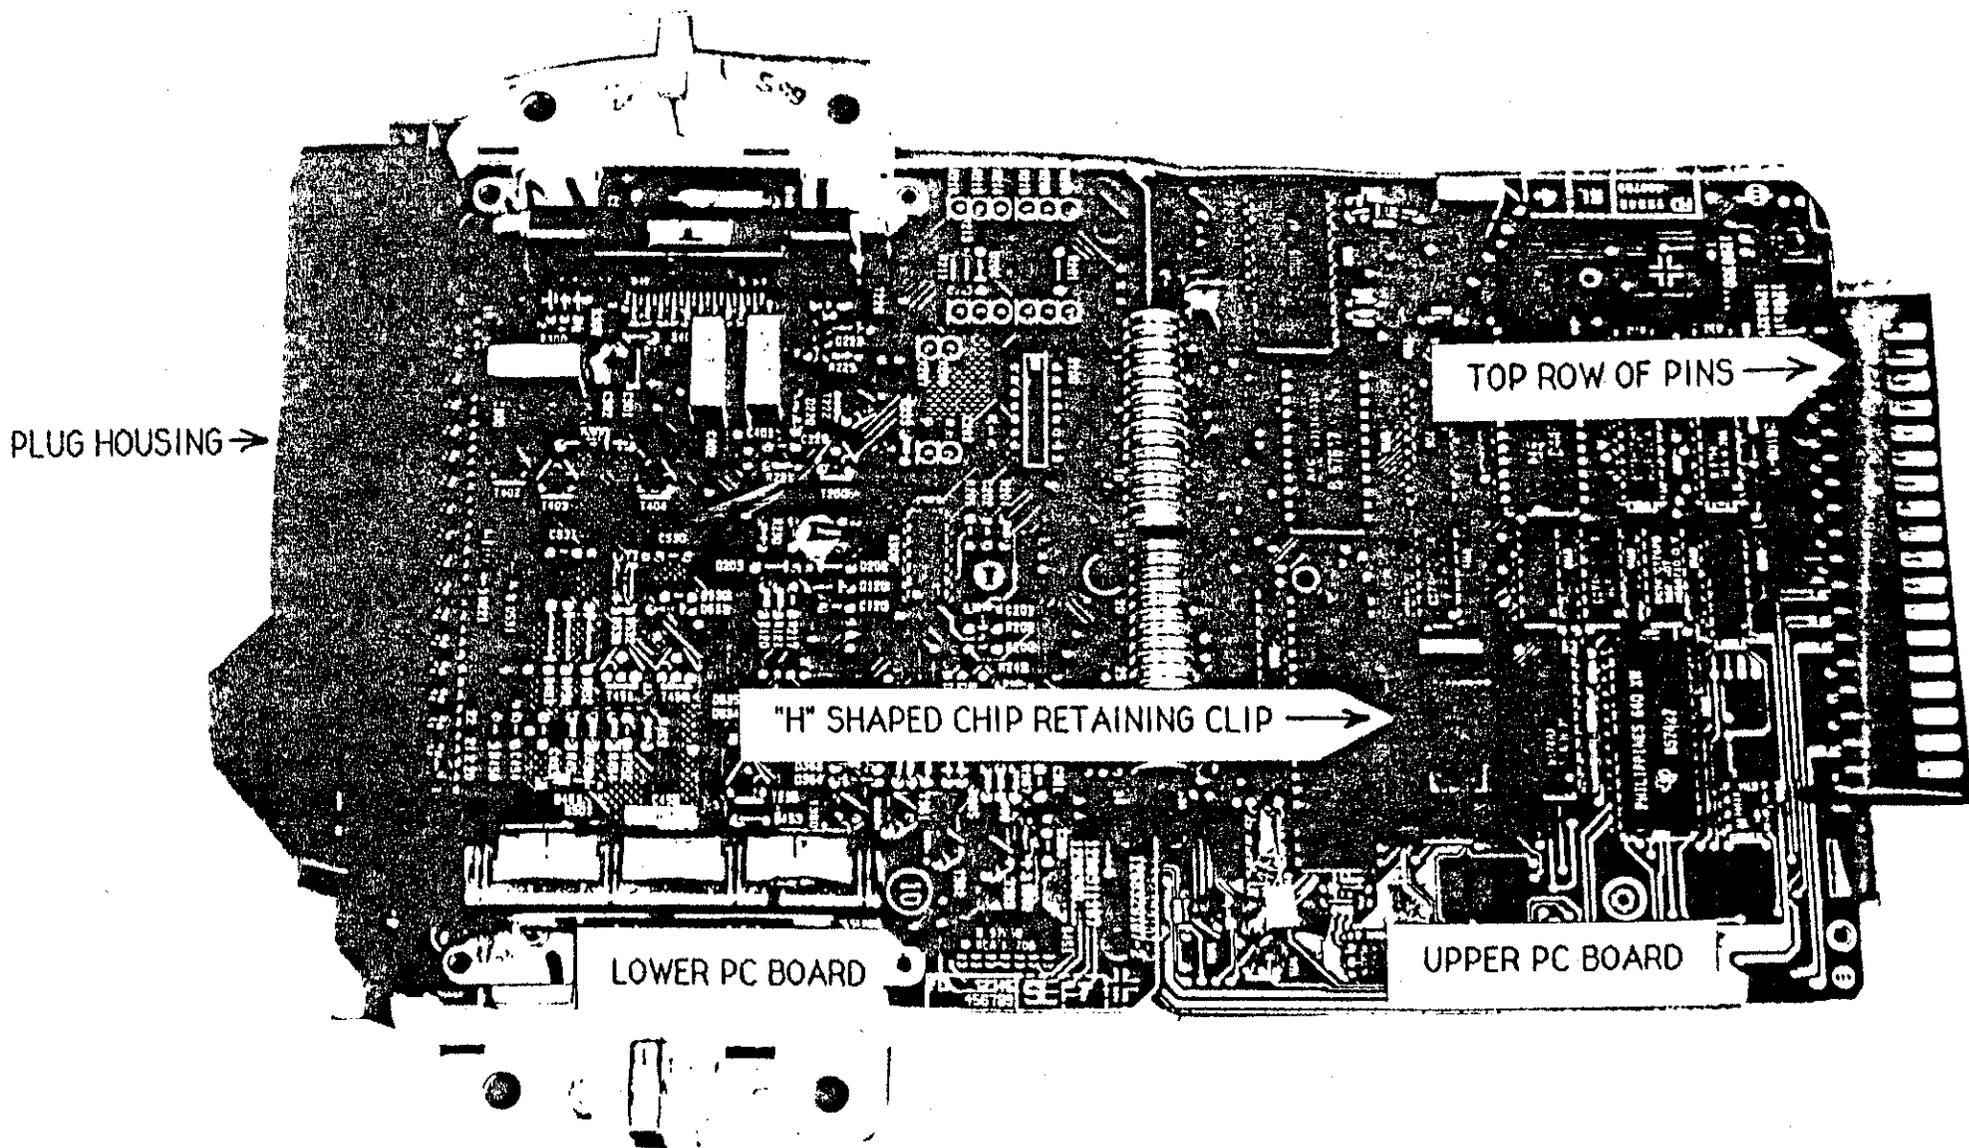

FIGURE 8
7. This is the most difficult step! See figure 7 to understand the goal of this step, See figure 8 to understand how the latches are arranged. Hold ECU with metal side down and plug end facing you. With one hand apply upward pressure on upper PC board, as in step 6. At the same time, with your other hand, use the pocket screwdriver to release the plastic latches located inside the plug housing at both ends of the top row of pins (see fig.8). To release these latches insert the pocket screwdriver in the gap between the latch and the plug housing and rotate. The upward pressure on the upper PC board should keep the latches from relatching when the screwdriver is removed. While maintaining this position insert the small screwdriver between the plug housing and the plastic that the top row of pins are molded into and rotate, then pull the upper PC board away from the plug housing. DO NOT pry against any of the pins as they may become damaged. Pull back on upper PC board until the pins clear the plug housing and then flip over the upper PC board so that both PC boards are face up as in figure 7.